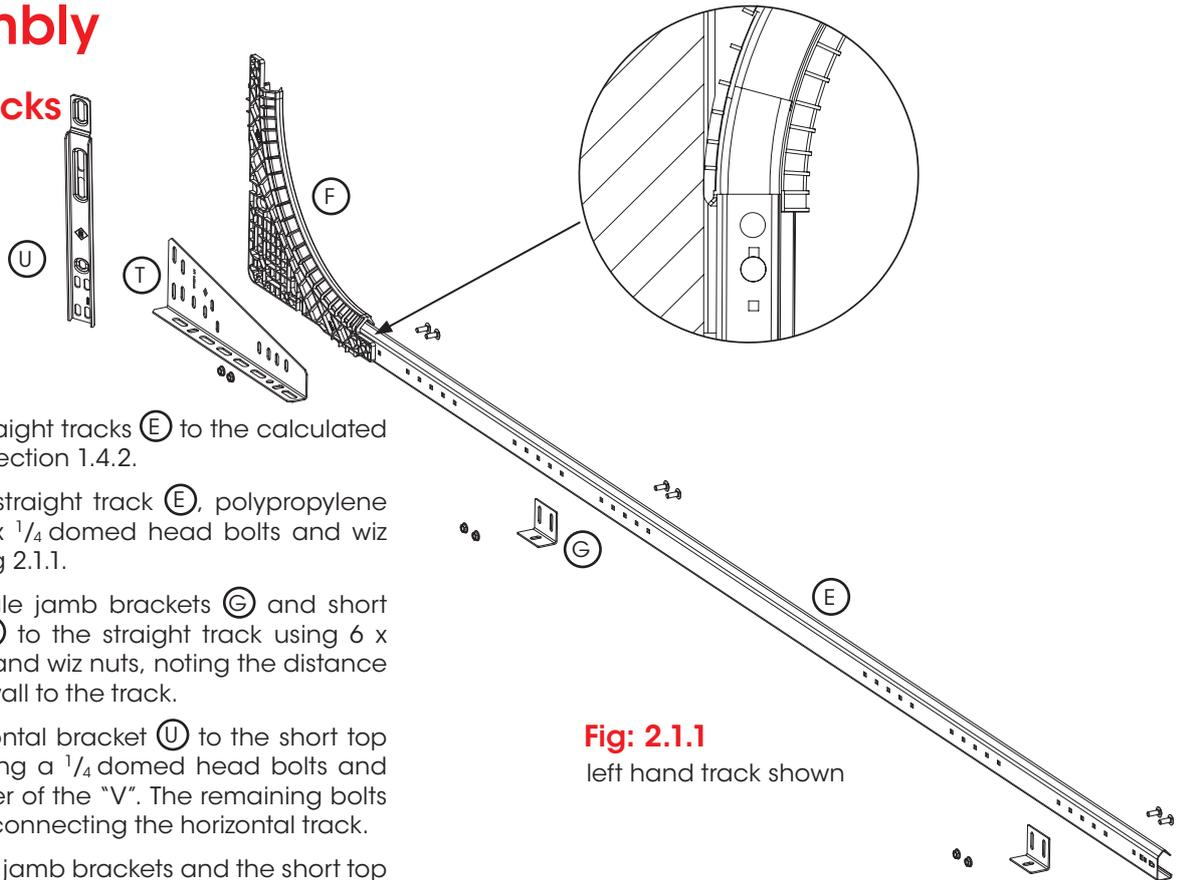

Fig: 2.1.1
- Cut the Vertical Straight tracks (E) to the calculated length as listed in section 1.4.2.
- Assemble vertical straight track (E), polypropylene curve (F) using 4 x 1/4 domed head bolts and wiz nuts as shown in Fig 2.1.1.
- Affix the small angle jamb brackets (G) and short top track angle (T) to the straight track using 6 x 5/16 flat head bolts and wiz nuts, noting the distance required from the wall to the track.
- Connect the horizontal bracket (U) to the short top track angle (T) using a 1/4 domed head bolts and wiz nut in top corner of the "V". The remaining bolts will be used when connecting the horizontal track.